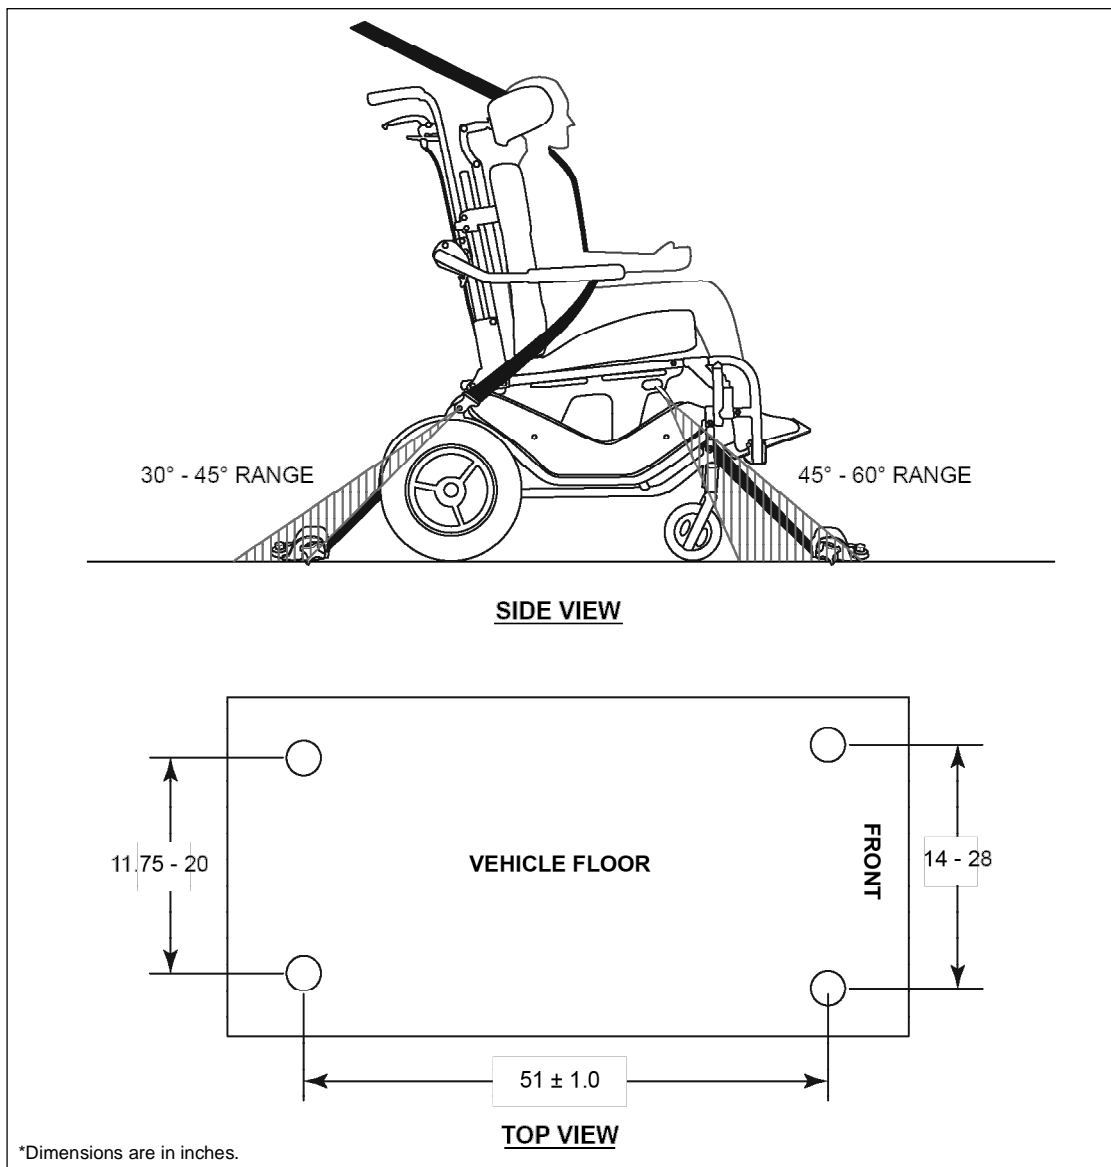

Figure 3
4. Position the wheelchair between the front and rear tiedown anchor points, allowing for the correct angle of adjustment of the tiedown straps. See Figure 3.